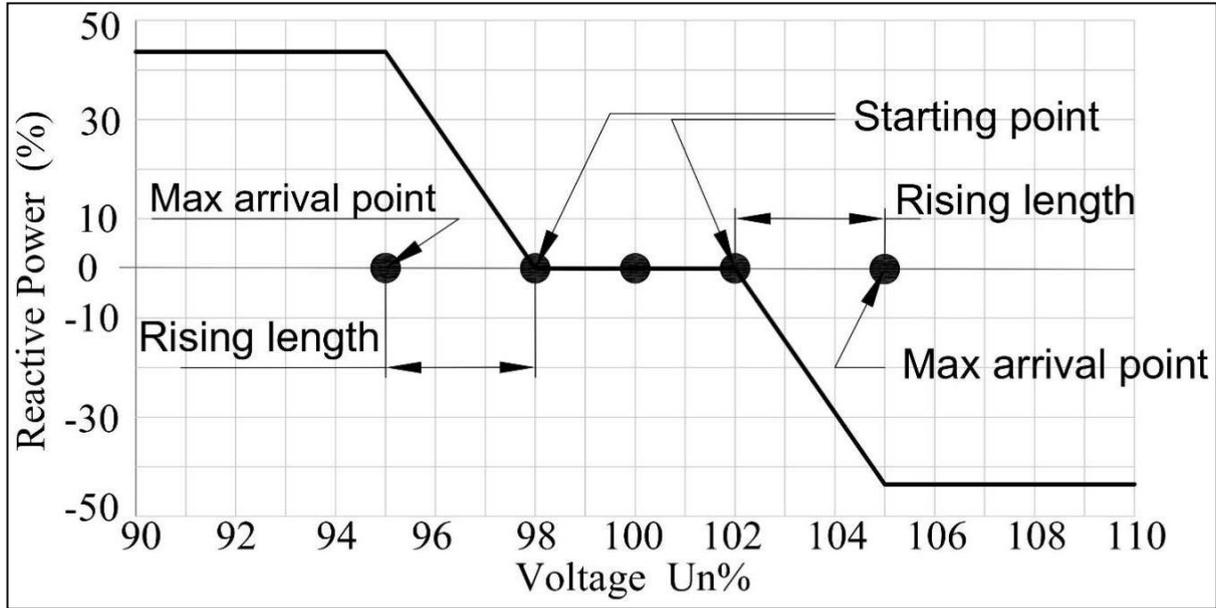

Figure 3.19 QU curve when power factor is 0.9
- **Reactive Power Type:** Reactive power compensation type. ①The reactive power is directly set. ②Fixed power factor at fixed. ③By active power-power factor curve. ④Reactive power-voltage amplitude curve (local grid standard). ⑤According to reactive power-voltage amplitude curve (common standard).
- **Reactive Power-Vol curve:** Reactive power-voltage amplitude curve abide by Universal standard. Please set the following parameters as required: *Starting point of Q-U%*, *Rising length of Q-dU%*. For example, As shown in the figure 3.19, QU curve when power factor is 0.9, From the power factor of 0.9, we can calculate the maximum reactive power as 43.59%* apparent power) .